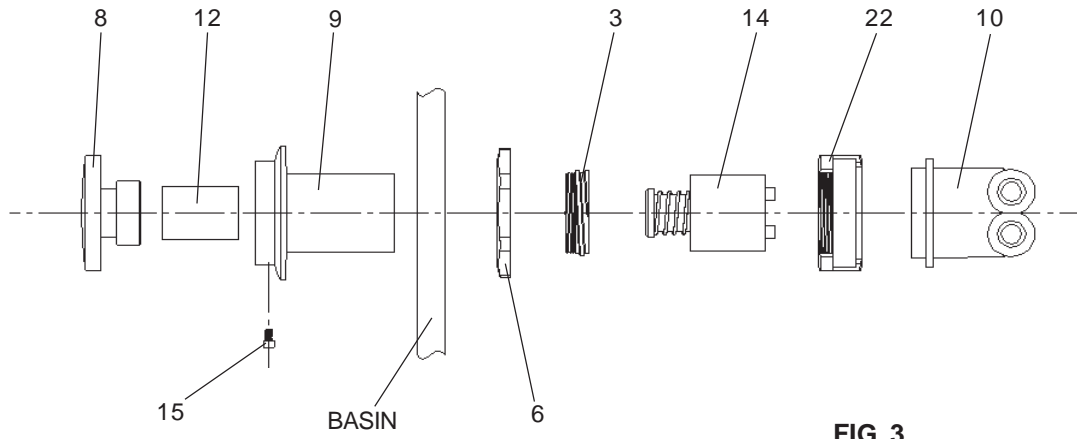

FIG. 3
7. **Check stream height from bubbler.** Stream height is factory set at 45-50 PSI. If supply pressure varies greatly from this, adjust the screw on regulator item 14 by using a small screwdriver through the small hole in the push button item 8 (See Fig.3). Clockwise adjustment will raise stream height and counter-clockwise adjustment will lower stream height. For best adjustment stream height should be approximately 1-1/2" (38mm) above the bubbler.